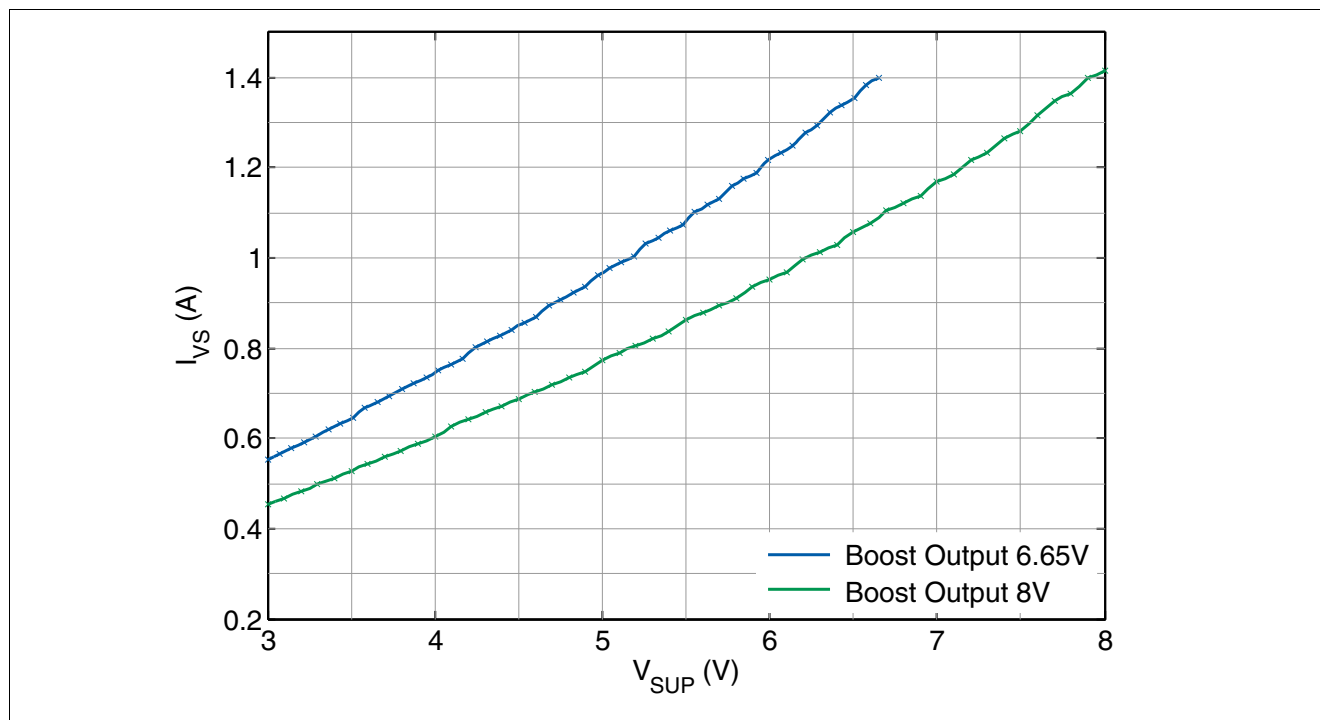

Figure 14 Maximum DCDC boost current capability versus V_{SUP}.
- 3) Values verified in characterization with boost converter specified in Chapter 15.1. Not subject to production test; specified by design. Refer to Figure 14 for additional information.
Note: **Figure 14** is based on simulation results (specified by design), with boost converter external components specified in **Chapter 15.1**.